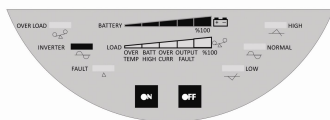
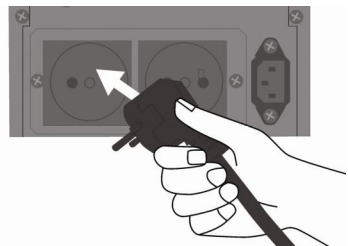

Figure 3.9
Figure 3.10
- b. Following 2 consecutive audible warnings, **INVERTER** LED will turn on (Figure 3.9). At this stage, you can connect your loads to output sockets (for models with patch cable) (Figure 3.10) or turn on your loads connected to UPS output (for models with contact).